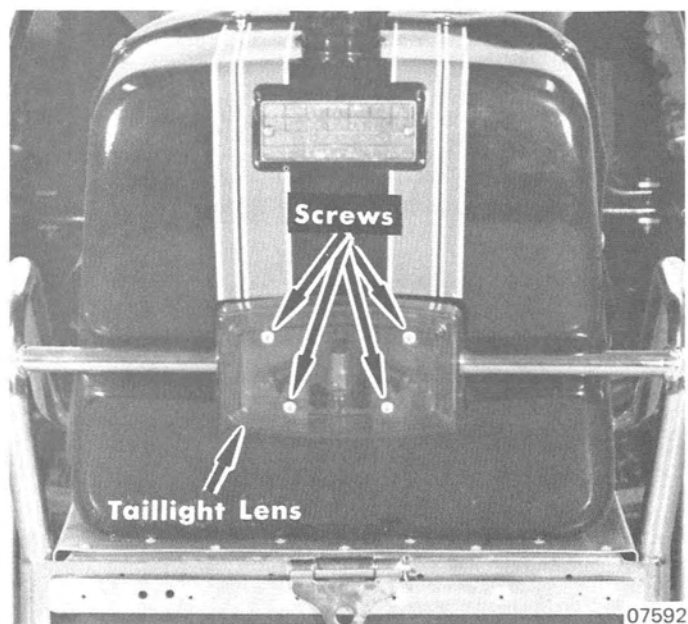

Figure 5. Taillight Lens
4. Remove 4 screws and remove taillight lens. (Figure 5)